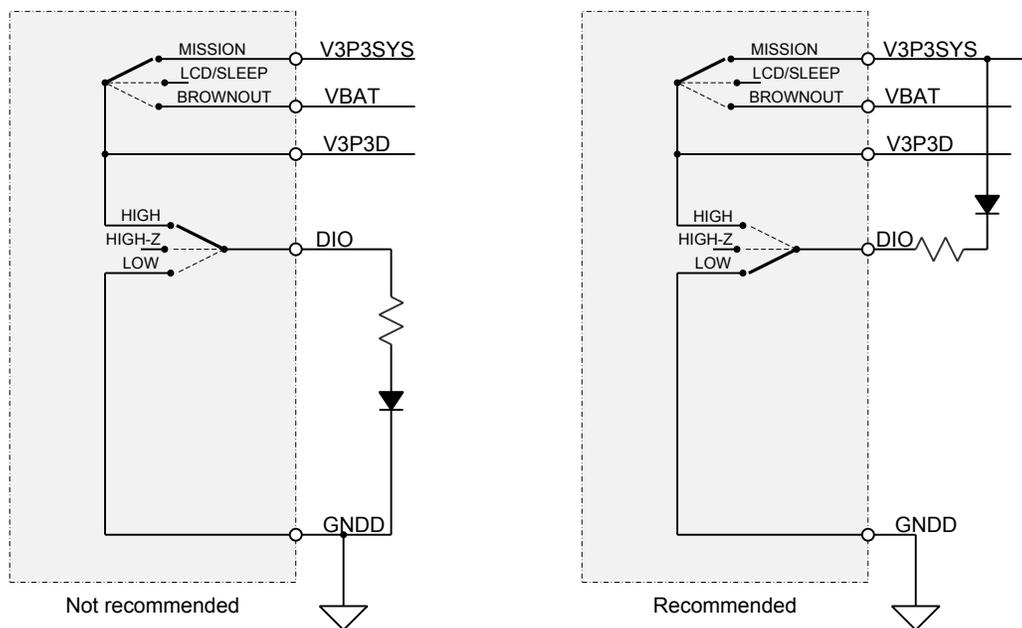

Figure 9: Connecting an External Load to DIO Pins
- ✓ When driving LEDs, relay coils etc., the DIO pins should sink the current into GNDD (as shown in Figure 9, right), not source it from V3P3D (as shown in Figure 9, left). This is due to the resistance of the internal switch that connects V3P3D to either V3P3SYS or VBAT.